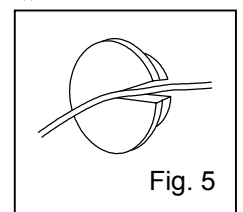

Fig. 5
7. Make a small cut on the rubber caps for capillary to pass. See Fig. 5
9. After covering the temp. sensor with the cover provided, fix the temp. sensor under the 3rd shelf by using 2 enclosed nylon clip. See Fig. 5.